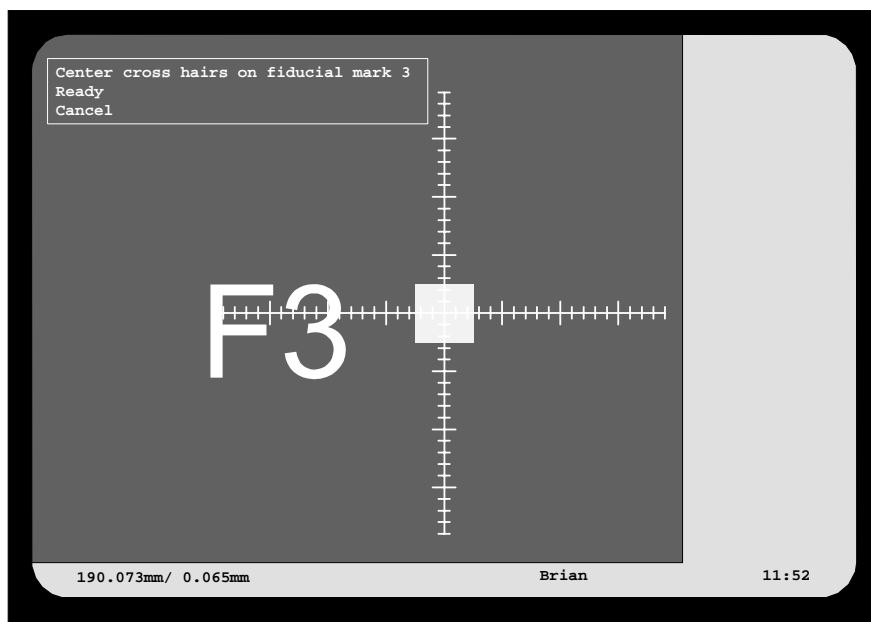

Figure 3-18. Centering fiducial mark F3
- Press <F1> and center fiducial mark F3, see Figure 3-18.